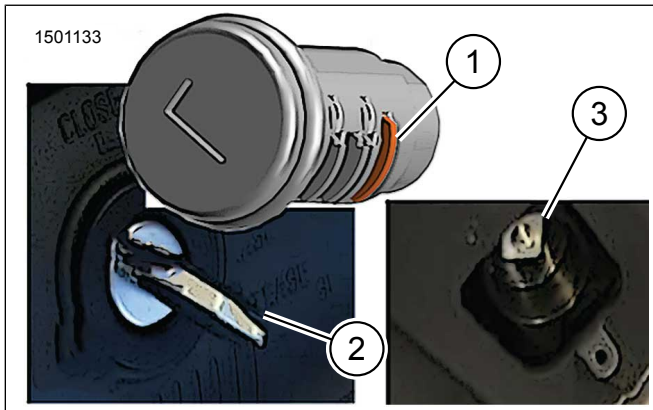
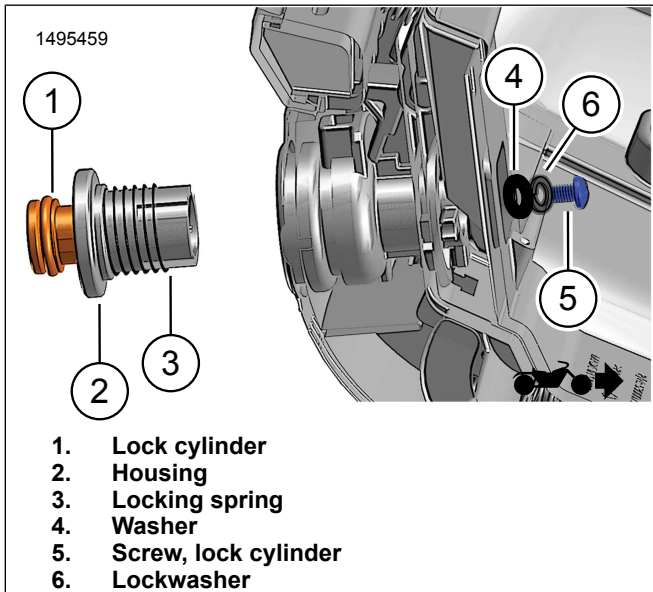

Figure 8. Release Tumbler - Release Position
Figure 9. Install Lockset to Top Case
- Figure 8 Position rotor, set to release position.
- Figure 9 Install housing (2) and locking spring (3) on lock cylinder (1).
- Figure 8 Install lockset.
- Align retention tumbler slot (1) to release position (2).
- Square boss on lockset must mate with square opening on rotor (3).
- Figure 9 Install washer (4), lockwasher (6) and screw (5). Hand tighten.